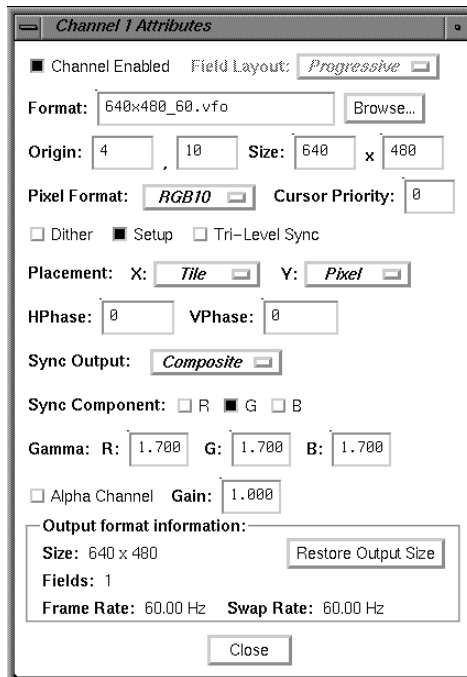

Figure 3-12 The Combiner Channel Attributes Window
7. Move to the right Origin box (the y-origin box) and replace the value with a 10, then press <Enter>. See Figure 3-12 for an example.